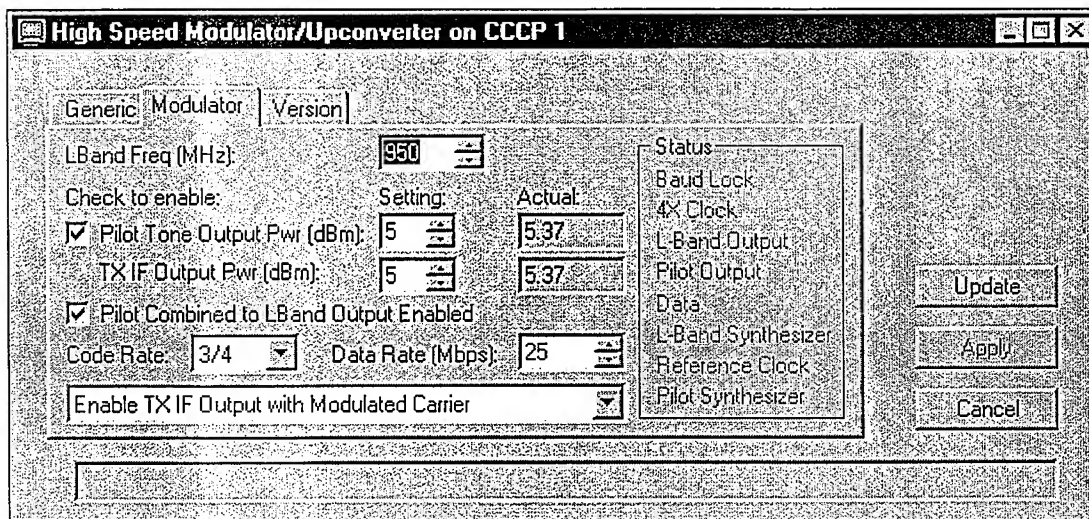

Figure 23. High Speed Modulator/Upconverter Window
1. In the Object Tree pane, double-click the High Speed Modulator/Upconverter to open the High Speed Modulator/Upconverter window (see Figure 23).